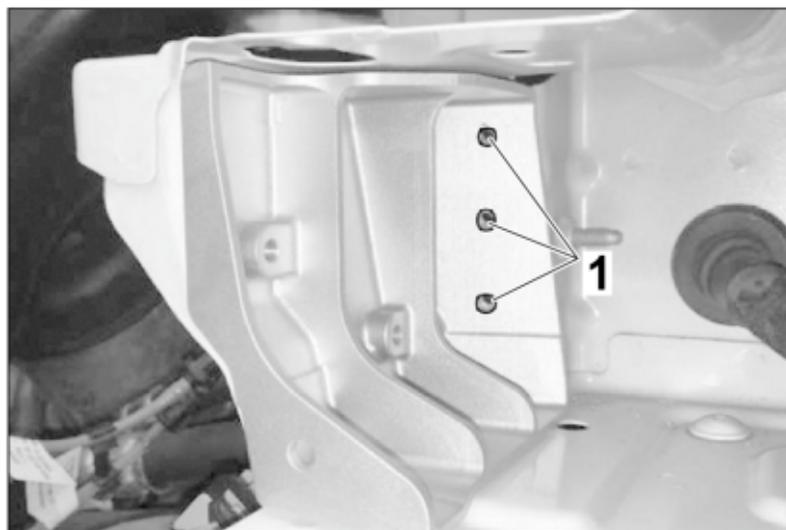

Figure 52
14. – Insert the stiffener (991.044.806.20) on the inside of the right lamp box. Replicate the three required holes on the lamp box and remove the component again for the following work steps ⇒ Figure 52 -1-.